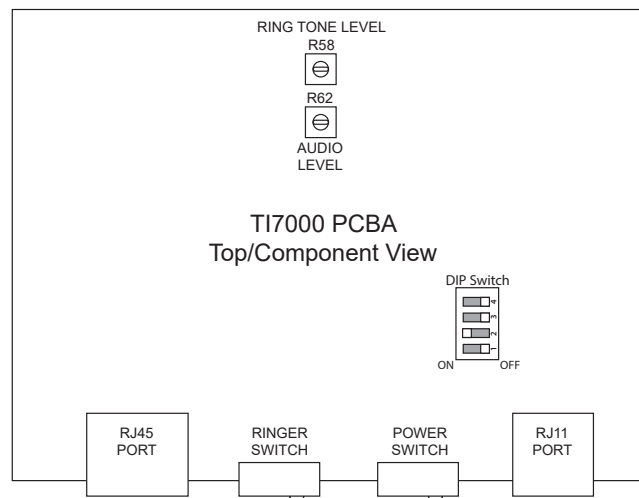

Fig. 11.6
**Note:** Fig. 11.6 shows the location of two potentiometers and a DIP Switch on the TI PCBA. These potentiometers are factory set and should not need to be adjusted, but if they do, unscrew the four screws on the front cover of the TI7000 with a Phillips (crosspoint) screwdriver. Adjust R58 for the ring level and/or R62 for the voice level as needed. Clockwise turns increase volume, while counterclockwise turns decrease volume. Call the store phone again to check out the ring or voice level. Replace the cover on the unit when you are satisfied with the ring/voice level.